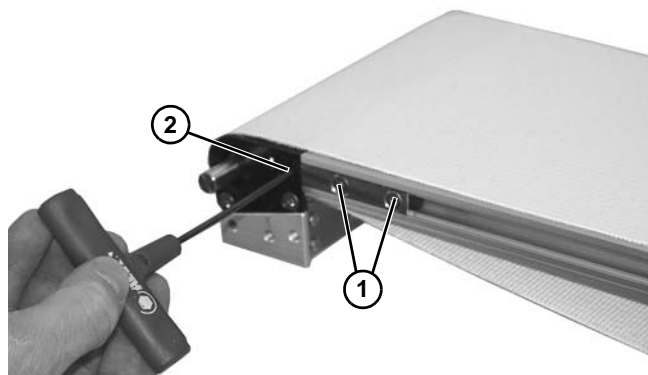

Figure 33
1. Loosen two screws (**Figure 33, item 1**) on both sides of conveyor.
2. On both sides of conveyor, rotate belt tracking cam screw (**Figure 33, item 2**) to remove tension on belt.